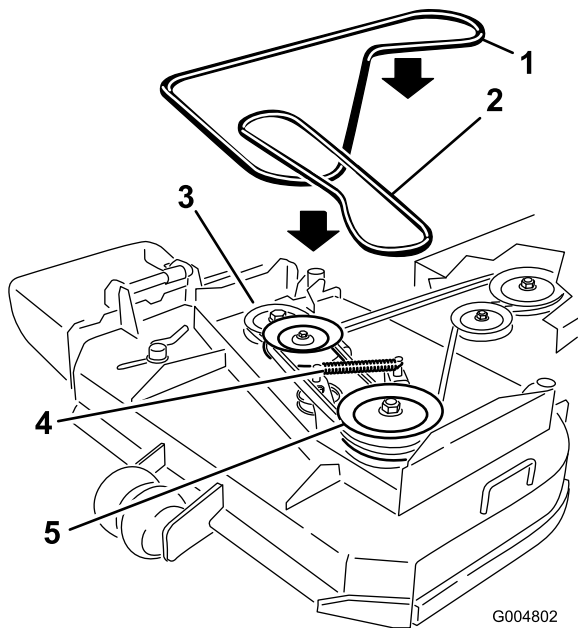

Figure 38
6. Disconnect the idler arm spring to relieve tension on the idler arm and idler pulley, then remove the worn mower belt (Figure 38).
7. Install the new mower belt around the two outside spindle pulleys, the idler pulley, and in the lower groove of the double spindle pulley (Figure 38).
8. Connect the idler arm spring (Figure 38).
10. Adjust the belt guide an 1/8 inch (3 mm) from the belt (Figure 38).